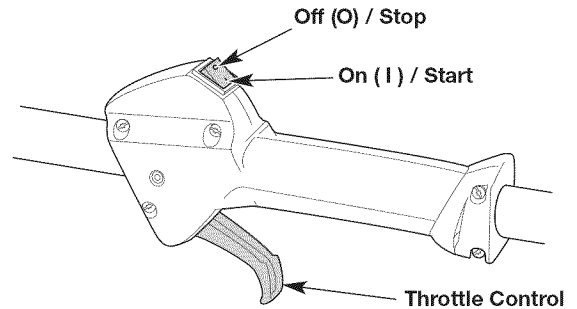
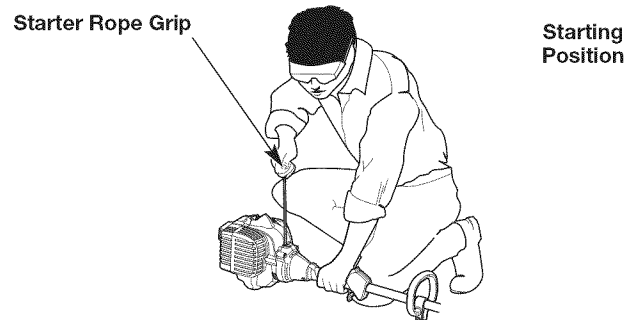

Fig. 6
Fig. 9
WARNING: Avoid accidentally starting the unit. To avoid serious injury, the operator and the unit must be in a stable position when pulling the starter rope (Fig. 9).
NOTE: There is no need to turn the unit on. The On/Off switch is in the ON (I) position at all times (Fig. 6).
5. Crouch in the starting position (Fig. 9).
6. **DO NOT** squeeze the throttle control (Fig. 6). Pull the starter rope with a controlled and steady motion until the unit starts (Fig. 9).
2. Press and hold the On/Off switch in the OFF (O) position until the engine comes to a complete stop (Fig. 6).